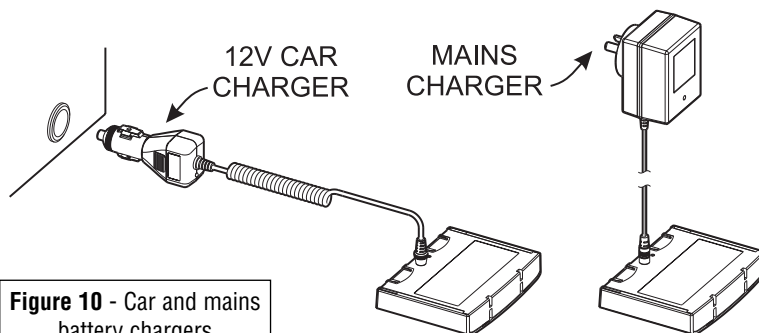

Figure 10 - Car and mains battery chargers
- Place 8 "AA" alkaline batteries (17) into the base of the alkaline pack (16). Ensure they are aligned as shown in figure 10 and as indicated inside the compartment.